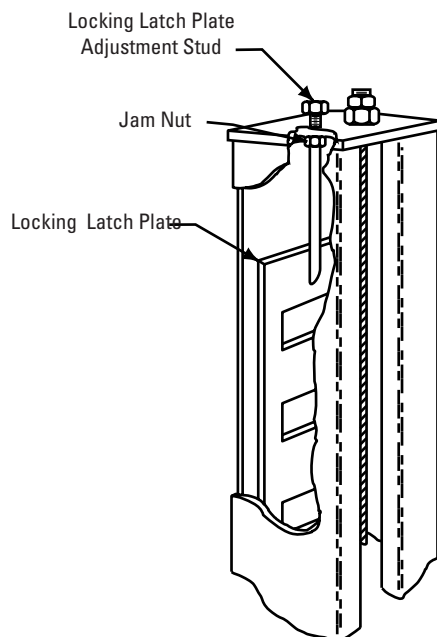

Fig. 31
- I. Always recheck the level of the runways to be sure all four locking latch plates are adjusted correctly. Start at point "A" and recheck level at points "B", "C" and "D", Fig. 31. Readjust, if needed.
- J. To complete the leveling procedures, lock each locking latch plate jam nut tightly against bottom of column top plate, Fig. 31.